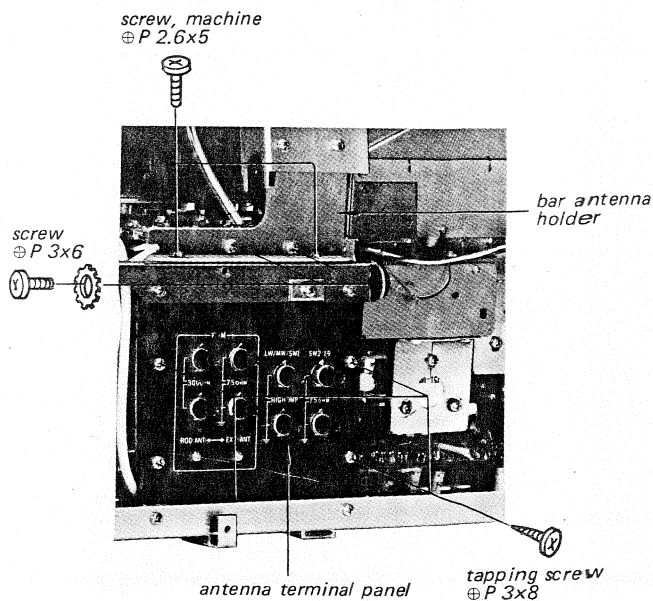

Fig. 2-14
1. Remove the eight screws shown in Fig. 2-14 and remove the bar antenna holder and antenna terminal panel.